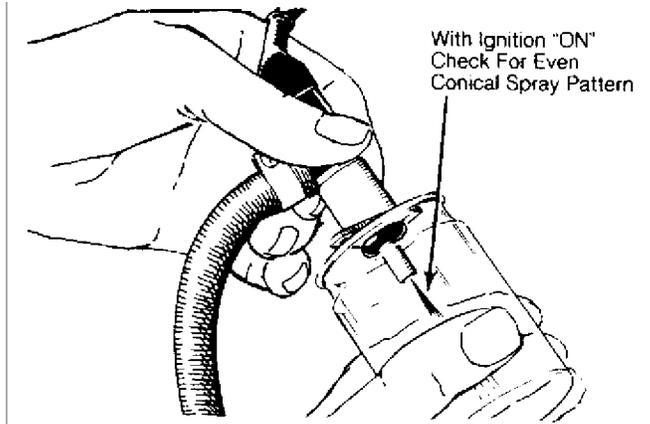

Fig. 11: Testing Cold Start Injector Valve
4) Remove cold start valve from manifold but leave fuel line connected. Place valve in a container. See Fig. 11. Connect a jumper wire from one terminal to ground, and from other terminal of cold start valve to a switch. The other side of switch should be connected to a source of battery voltage.